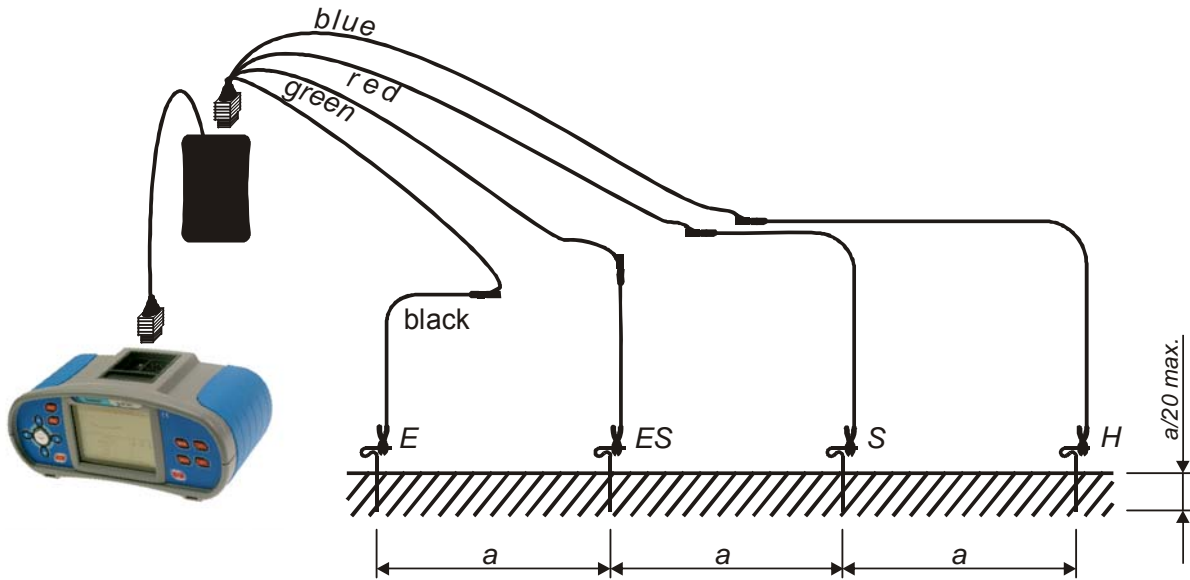

Figure 5.35: Specific earth resistance measurement with ρ -adapter
- Connect test leads of **ρ -adapter** to tested object (see figure 5.35)